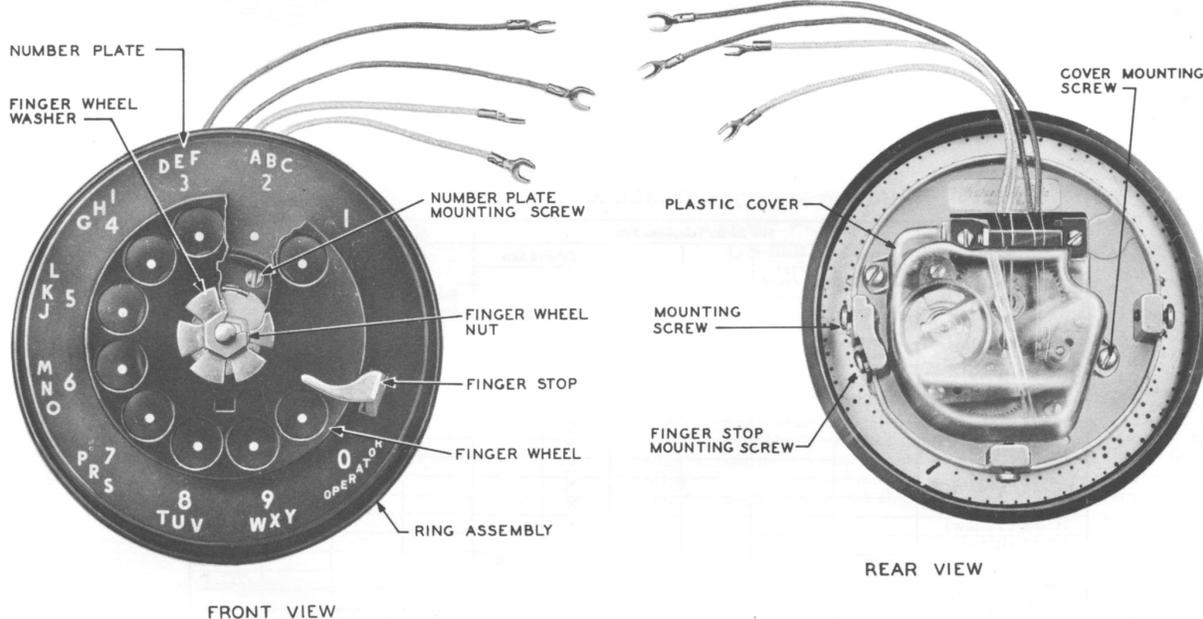

Fig. 1—7-type Dial
- 2.01 Figs. 1 through 3 illustrate the 7-, 6-, and 4-type dials.